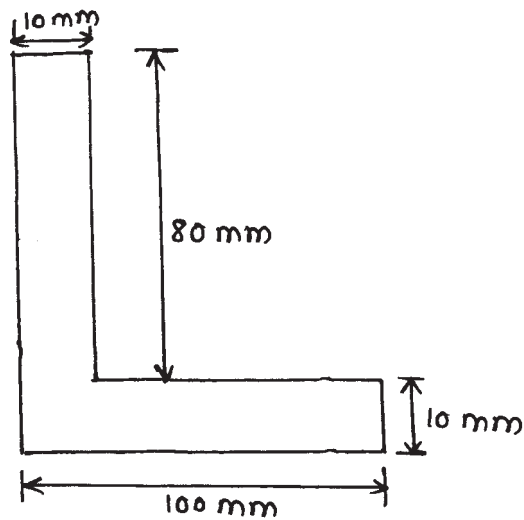

Figure No. 8
- a) Find position of centroid for L-section as shown in Fig. No. 8.